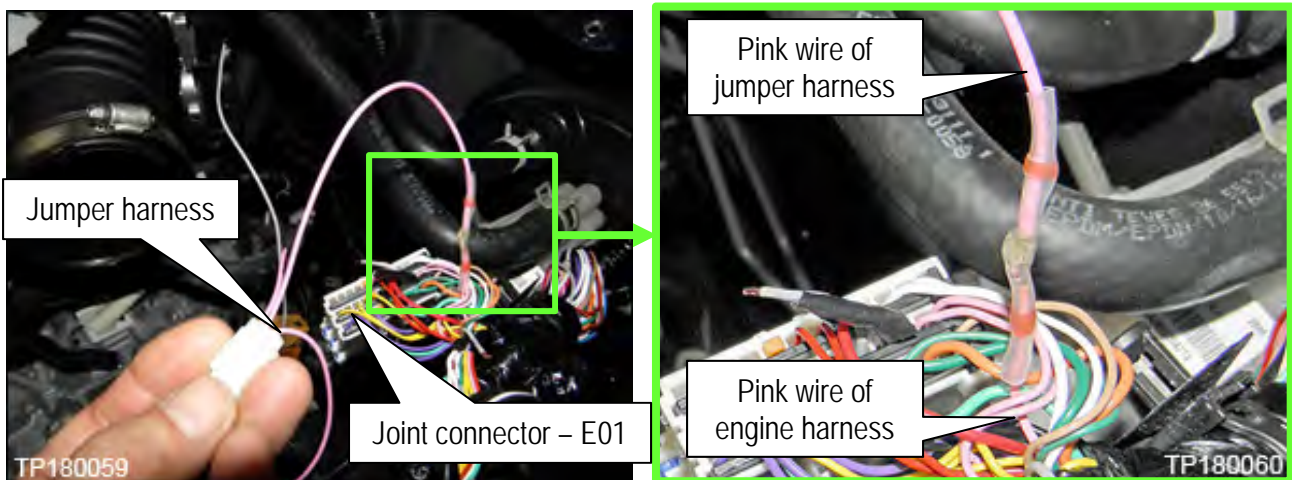

Figure 37
- Figure 37 shown with solder connection of pink wire of jumper harness and pink wire of Joint connector – E01 completed.